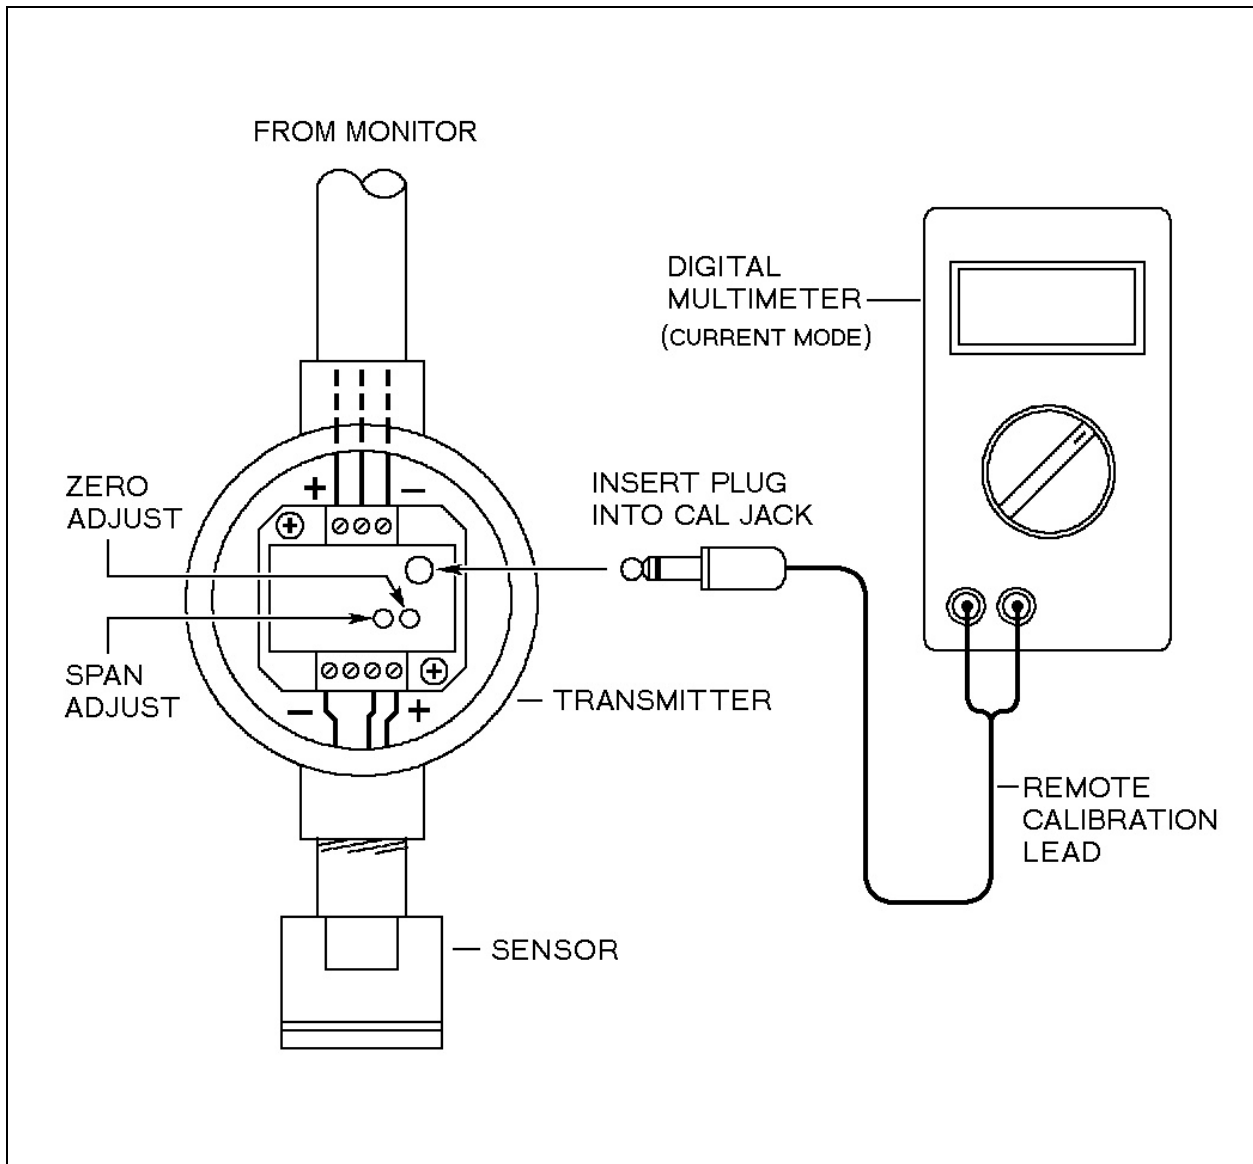

FIGURE 6: Calibration/Verification Set-up.
The calibration procedure may cause the monitoring equipment to give a false alarm; therefore appropriate precautions should be taken. Instructions for introducing the gas sample are included with every Calibration Kit or available separately on request (depending on type of gas or application). Refer to FIGURE 6 for the Calibration/Verification setup.
**Zero:** With the sensor in Zero Gas, the transmitter output signal current should read 4 mA. This is obtained by adjusting the Zero trimmer on the transmitter for a voltage of 0.000 VDC at the test points in Figure 6. It is possible, under certain conditions that the Zero current will fall below 4 mA.